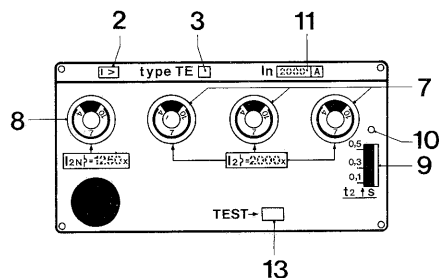

Fig. 5a (Tipi - Types T, Ts, Tsi)
- the adjuster (6) - Figs. 5a and 6 - that is provided for the T, Ts and Tsi types only, is single and common either for the phases and the neutral (the example shows an o/c release for a 4-pole breaker). This adjuster enables the setting of the I_1 operating current (for the inverse long time curve of thermal pattern). The setting range is adjustable 0,5 - 1 times the current value indicated on the release nameplate respectively for the phases (I_1) and for the neutral (I_{1n});
- the adjusters (7) and (8) - Figs. 5a, 5b and 6 - for setting of the protection against short-circuits I_2 , operate independently on each phase and on neutral. They enable the setting of operating currents I_2 of the magnetic release with definite short time-delay or with instantaneous operation. The setting range is adjustable 4 - 10 times the current value indicated on the release nameplate respectively for the phases (I_2) and the neutral (I_{2n});
- on the Ts, Tsi and TEs type releases (types used for selective protection) the screw (10) is provided for setting the definite short time-delay. The delay is adjustable 0,1 - 0,3 - 0,5 sec.
- operation of the mechanical trigger may be checked by pushing the TEST (13) push-button;
- the value (12) of the I_3 current (instantaneous magnetic release with non-adjustable high current setting) is indicated for the Tsi type release only.